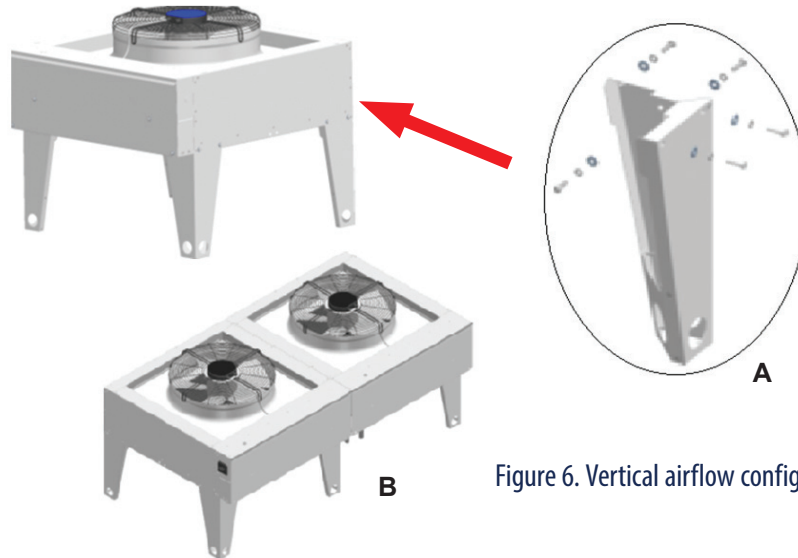

Figure 6. Vertical airflow configuration
- OACC model NC-Z and OAFC model NG-Z assembly is shown in Figure 6:
- ▶ Install the four provided legs (A) onto the equipment (leg is to be placed inside in the corner)
- Double condenser/cooler (B) would have six legs provided — place two additional legs in the middle — refer to picture.